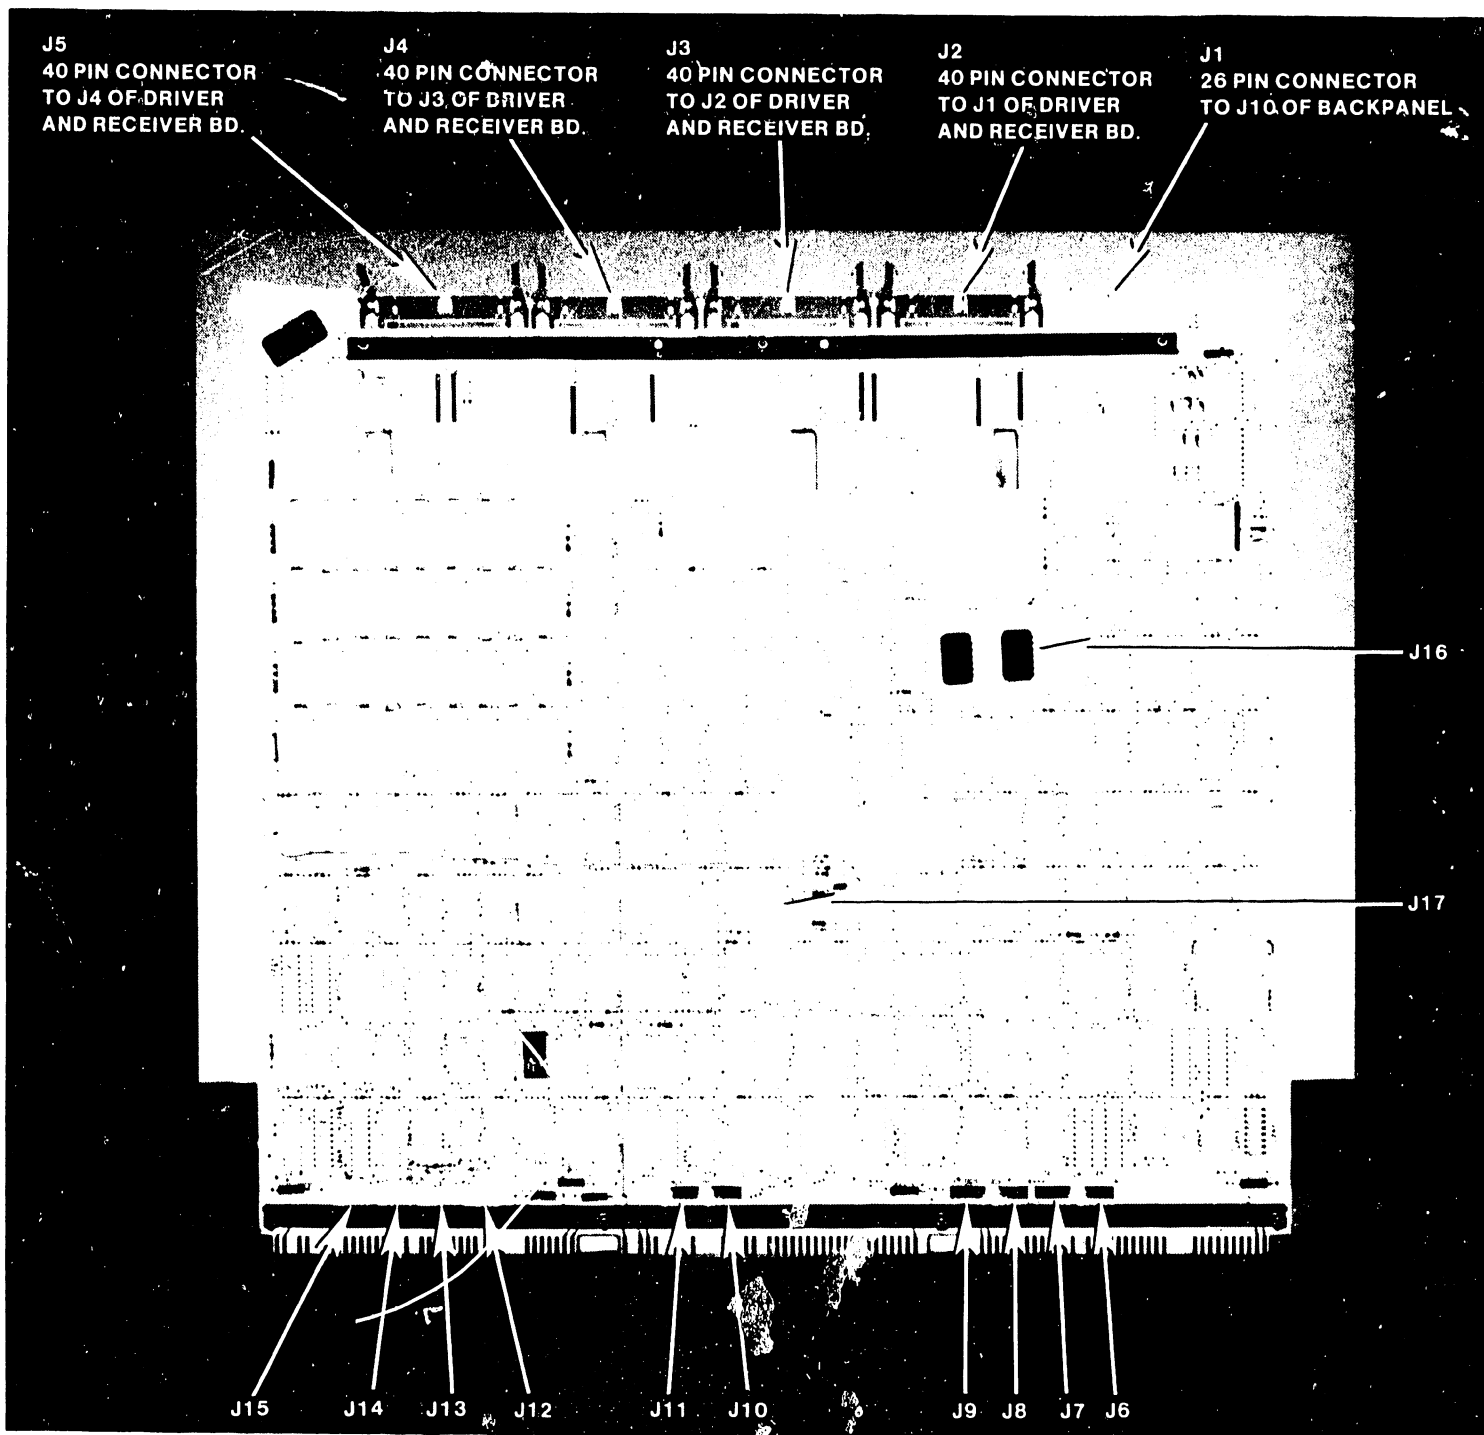

Figure E4-2 Async. Controller Board 25V36A
1. There are 12 Jumpers which must be set for proper operation of the Async. Controller (ref. Fig. E4-2). J6 through J15 provide I/O addressing information to the system. Table E4-1 gives a listing of the possible address configurations and jumper settings. Verify the system address configuration, and set the jumpers accordingly.